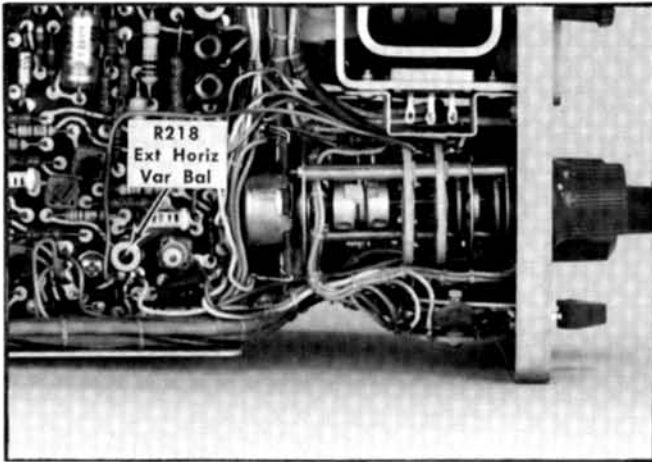

Fig. 6-19. Location of external horizontal variable balance adjustment (Main board).
- d. ADJUST—Ext Horiz Var Bal adjustment, R218 (see Fig. 6-19), for no trace shift as the EXT HORIZ VAR control is rotated. If necessary, use the horizontal POSITION control to keep the dot on the screen during adjustment.